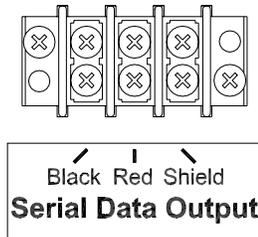

Figure 16 Serial Data Output Wiring Diagram
3. Connect the cable to the terminal block labeled **Serial Data Output** on the junction chassis according to figure 16.